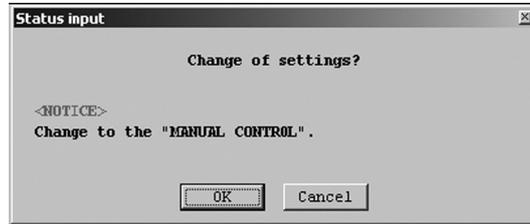

Fig.49
- ⑥ After all settings are complete, click the "OK" button to display a message box (Fig. 49). Click "OK" here to change the settings to the inputted values, and to reflect the changed setting values in the flowmeter's output. For the sake of safety, if the flowmeter's output is used to control valves or other such parts, then change that control loop to manual control so that the control loop is in a state whereby it is not influenced by the flowmeter's output